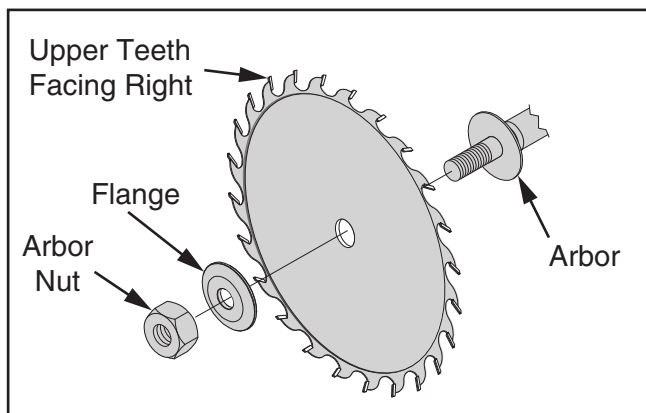

Figure 85. Order of assembly when installing main blade on arbor.
- Install new blade, flange, and arbor nut in reverse order from removal, making sure upper blade teeth face **RIGHT** (see **Figure 85**), then tighten arbor nut.